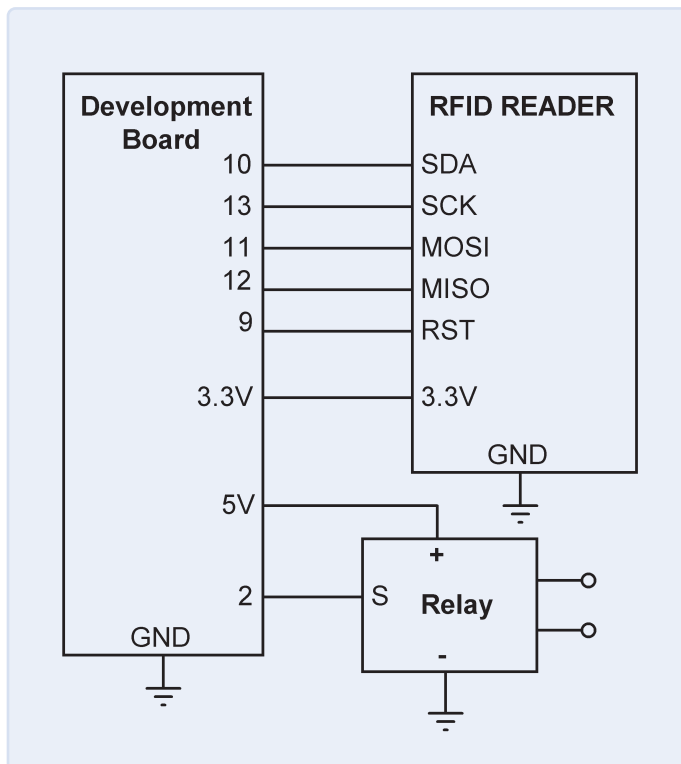

Figure 6: Access control project circuit diagram.
**Circuit Diagram:** The circuit diagram is shown in **Figure 6**. As opposed to other 'switching' projects in the book (not discussed here), a relay is added to Port 2.